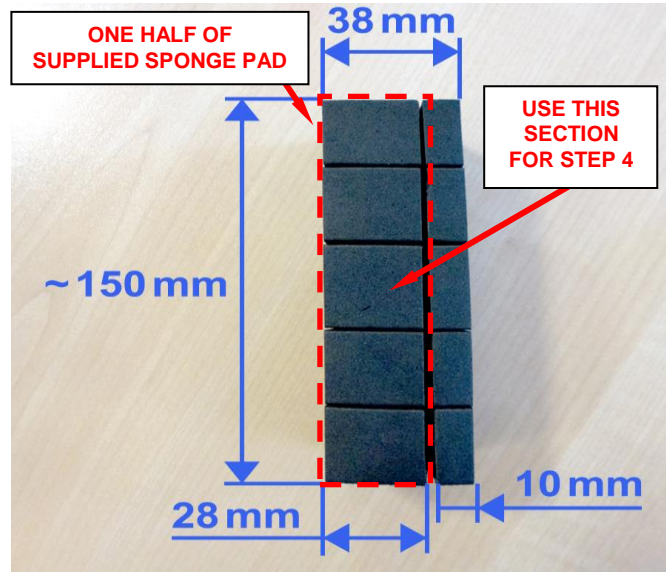

Figure 17 – Cut Sponge Pad
- Cut one of the supplied sponge pads in half, leaving five sections as shown then remove 10 mm from the width as shown. Use the 28mm by ~150mm sponge pad for Step 4 (Figure 17).